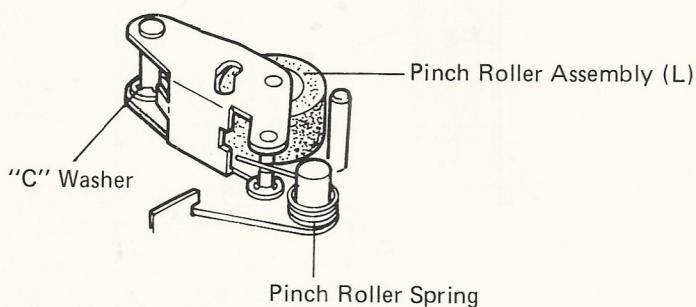

Figure 12
- (1) Remove the eject lever assembly.
- (2) Remove the pinch roller spring and the "C" washer to remove the pinch roller assembly as shown in Figure 12.
- (3) After replacing the pinch roller assembly with a new one, clean the pinch roller with absolute alcohol and assemble it in the opposite way to disassembly.
- (4) After assembling, confirm the tape speed and the wow/flutter with the test tape (MTT-111).
- (5) The pinch roller assembly (R) can also be removed in same way.